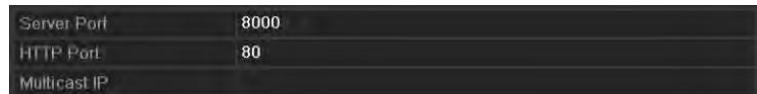

Figure 9. 24 Host/Others Settings Menu
2. Select the **More Settings** tab to enter the More Settings interface, as shown in Figure 9. 24.